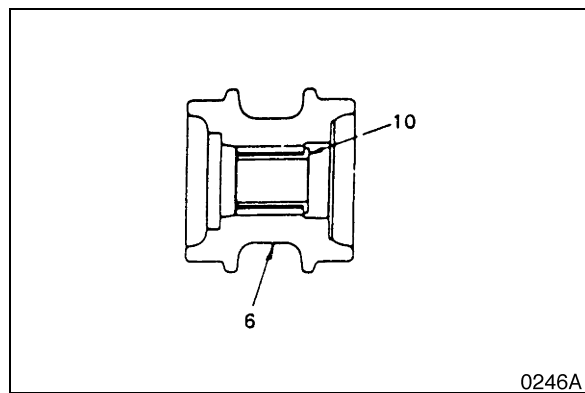

Figure 46
1. Degrease, clean and dry all parts before reassembly. Insert bushing (10, Figure 46) into roller (6).